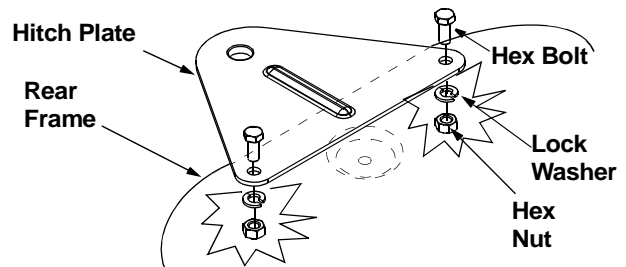

Figure 7
- Loosen the nut attaching the hitch plate to the frame and swing the plate outward. Make sure that the wider side of the hitch plate aligns with the rear frame as shown in Figure 7.
- Re-insert the hex bolt through the hitch plate and the rear frame. Secure with lock washer and hex nut removed earlier. See Figure 7. Tighten both sets of hardware.